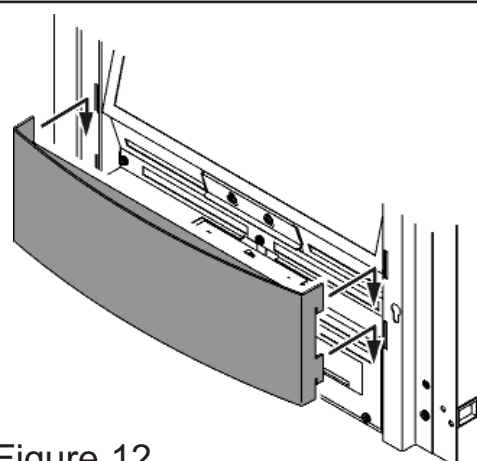

Figure 12.
1. Locate the infill trim as in figure 12.